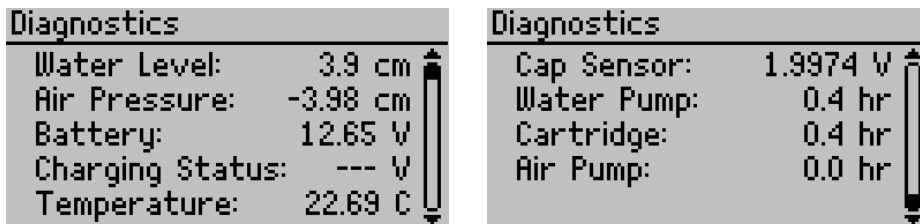

Figure 24 Viewing the Diagnostics option
- **Diagnostics.** Shows all the current readings from the instrument: water level (the current water level above the soil); air pressure (pressure in the head space of the infiltrometer assembly); battery (current battery voltage); charging status (observed voltage from charging power supply); temperature (internal temperature of the control unit); and cap sensor (measured voltage of the cap sensor, which is proportional to the humidity within the control unit) (Figure 24).